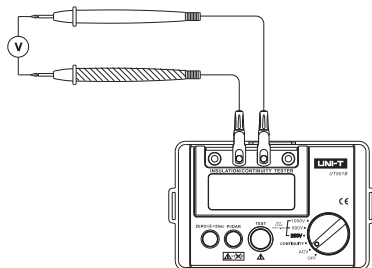

Figure 1
8. AC Voltage Measurement (See Figure 1)